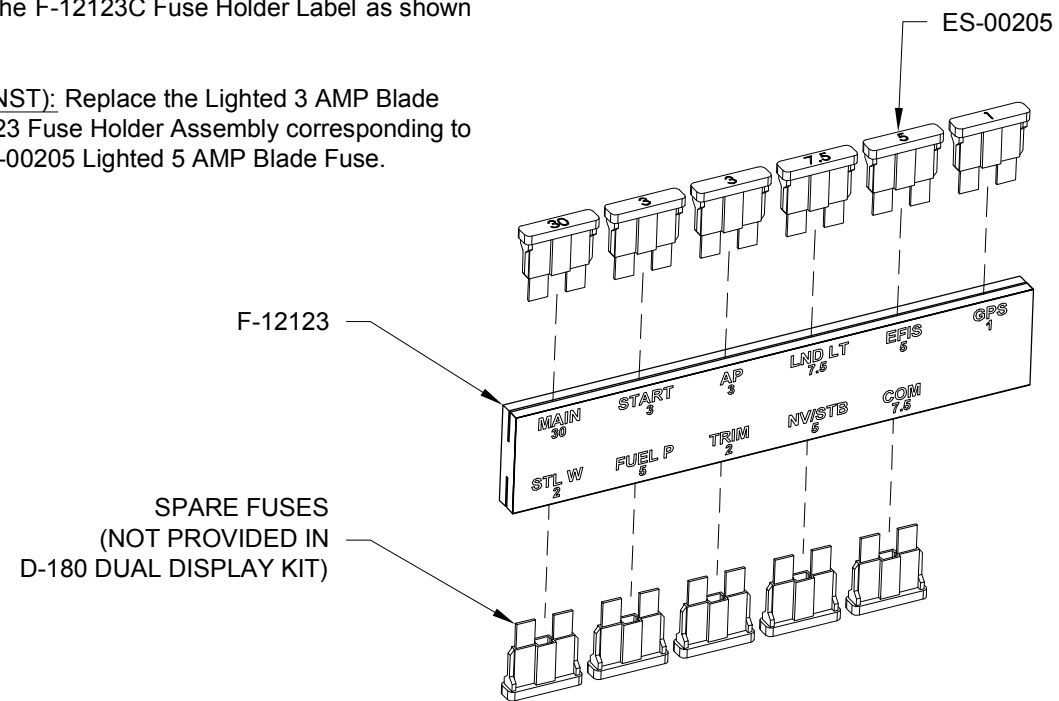

FIGURE 2: INSTALLING SPARE FUSES IN FUSE HOLDER ASSEMBLY
Step 2 (PRECONST): Install a second set of fuses in the F-12123 Fuse Holder Assembly pertaining to the same fuse values shown on the F-12123C Fuse Holder Label as shown in Figure 2.